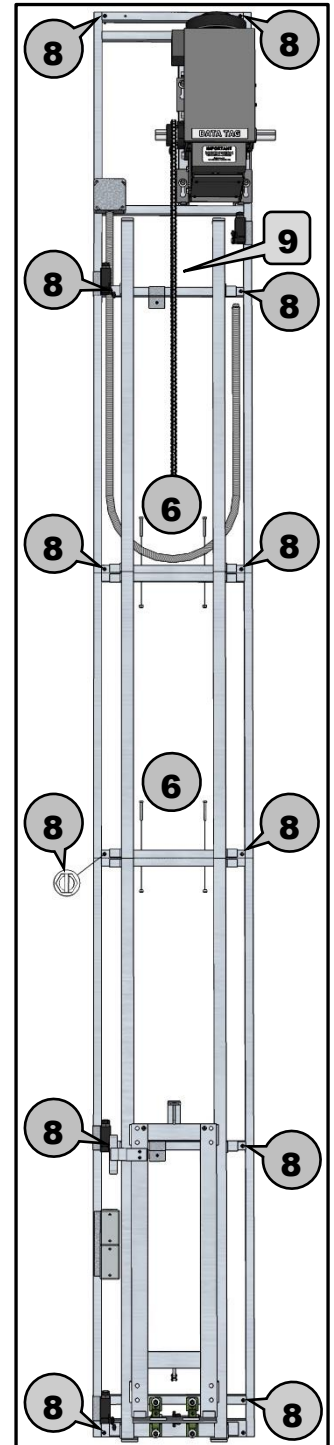

Figure 5
- 6** Use two (2) $\frac{1}{4}$ " x 2 $\frac{1}{4}$ " bolts & nuts to fasten sections together. (**see Figure 5**)
- 8** Use provided 3" lag screws to fasten track & rail assembly to wall. (**see Figure 5**)